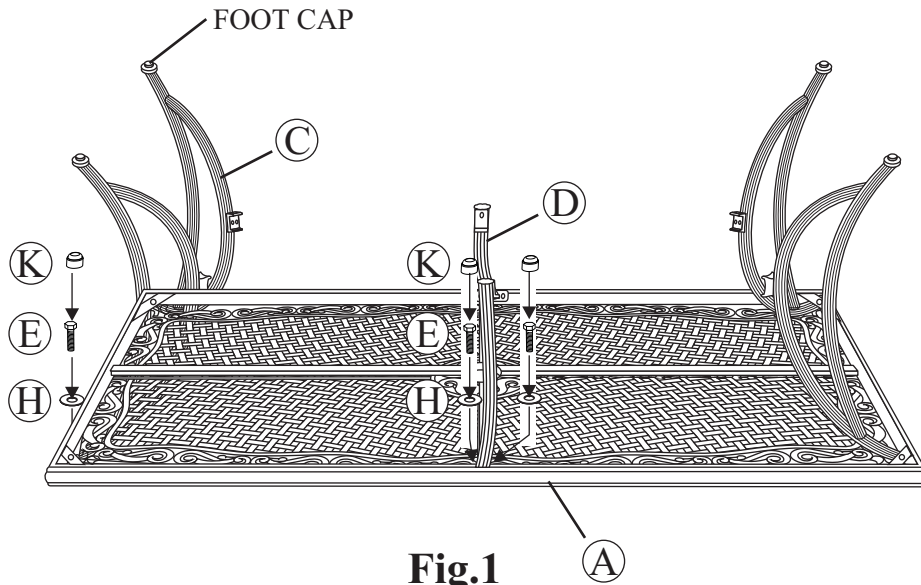

Fig.1
Place the table top (A) upside down on a flat, non-abrasive surface. Attach table leg (C) to table top (A) by using a bolt (E) and a washer (H) as shown in **Fig.1**. Place the leg beneath the table rim corner bracket. Guide the bolt through the hole in the table rim and into the pre-drilled hole in the table leg. **Hand tighten only.** Repeat for the other three legs. Attach the topside support (D) to the table top (A) by using two bolts (E) and washers (H) as shown in **Fig.1**. **Hand tighten only.** Repeat for the opposite side.